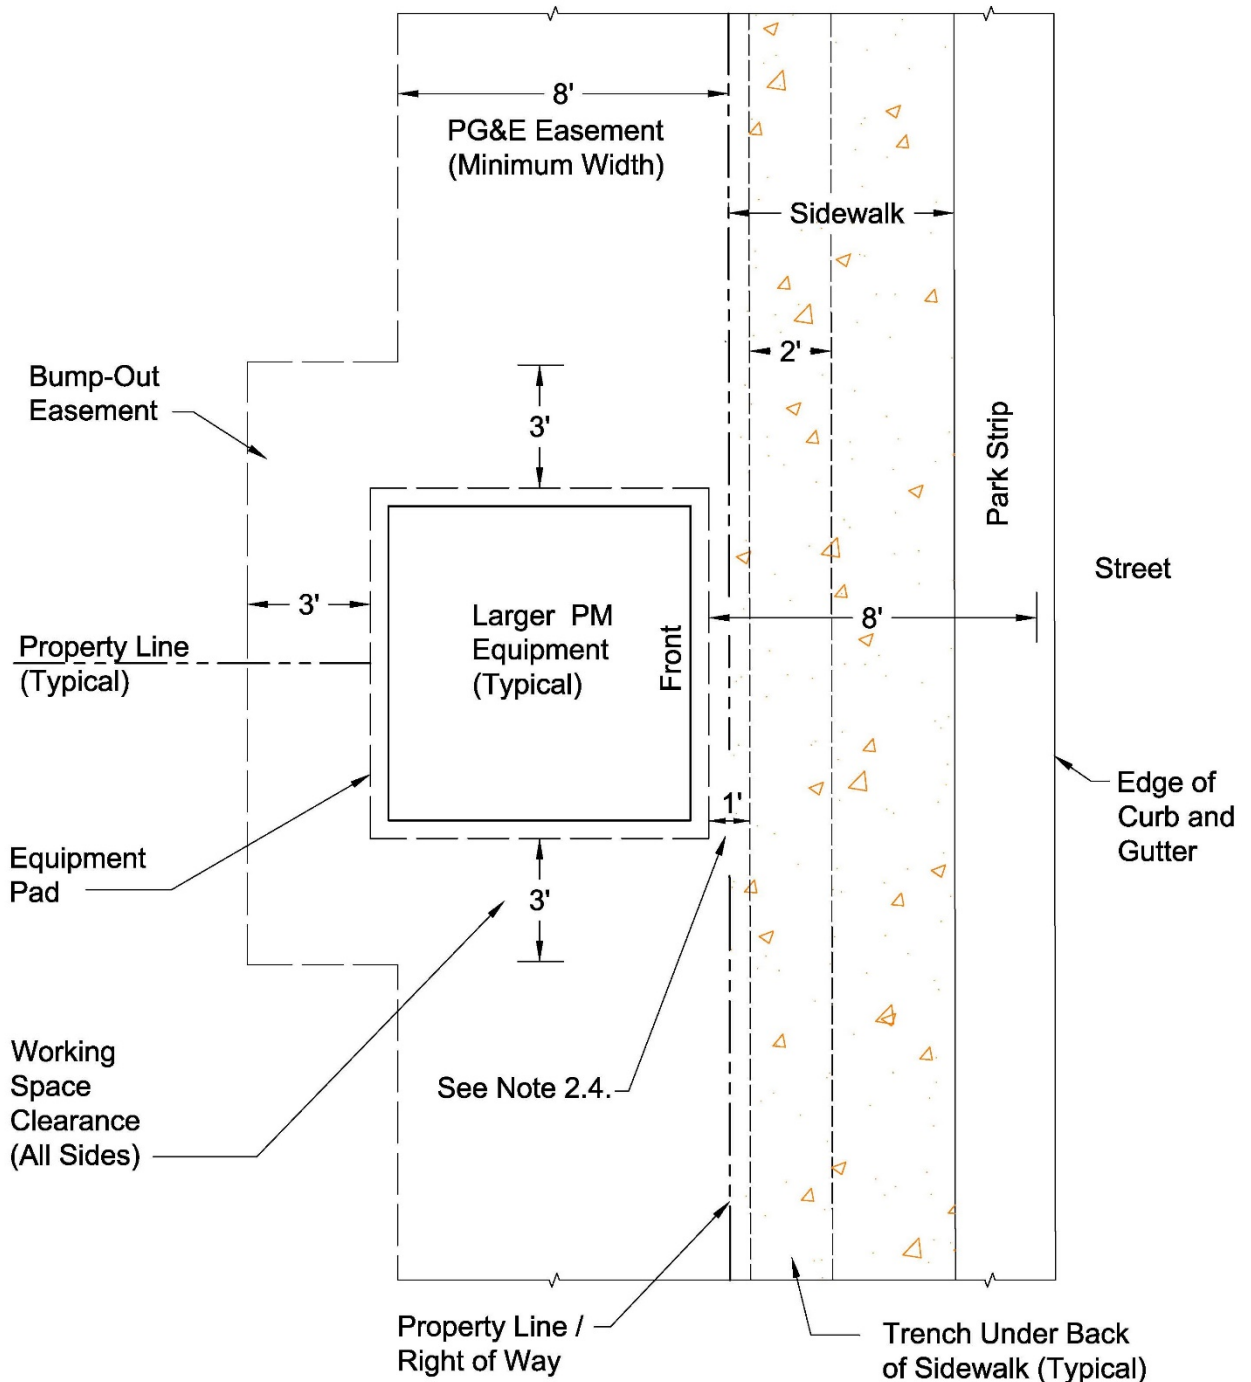

Figure 3 Large Pad-Mounted (PM) Equipment - Top View
- 2.11 If a bump-out (extension), off a PUE, is required, ensure the equipment pad or footprint and the working space clearances are accounted for. See Figure 3 Large Pad-Mounted (PM) Equipment - Top View, and Document 051122, Clearances and Location Requirements for Enclosures, Pads, and Underground Equipment.